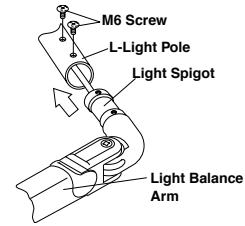

Fig.6-11 Fixing the Dental Light to L-Light Pole
B. Pass the light wires through the L-light pole and insert the light spigot into the light pole and fix it with 2 x M6 screws. (Fig.6-11)